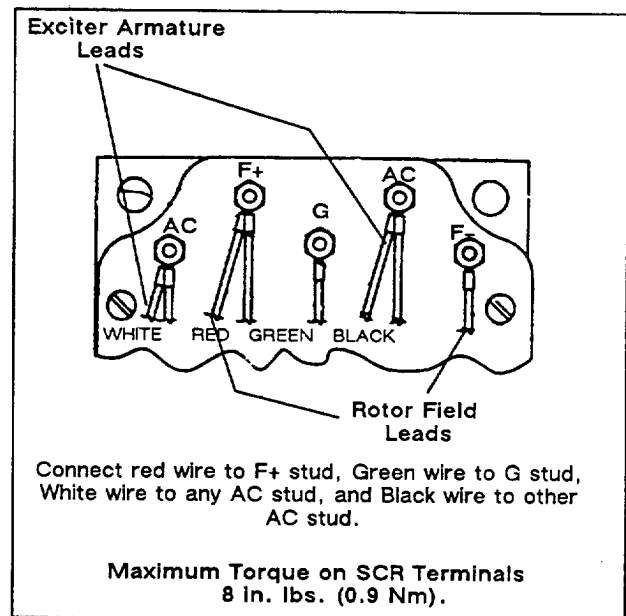

Figure 7. FR Activator Wiring
16. Connect red wire from photo transistor board to SCR "F+" stud and secure with stop nut (X-101-22). Attach photo board white wire to "AC" stud, green wire to "G" stud, and black wire to remaining AC stud on SCR. Secure with stop nuts. Torque connections to 8 in. lbs. (0.9 Nm) maximum. Reference Figure 7 for FR Activator wiring schematic.